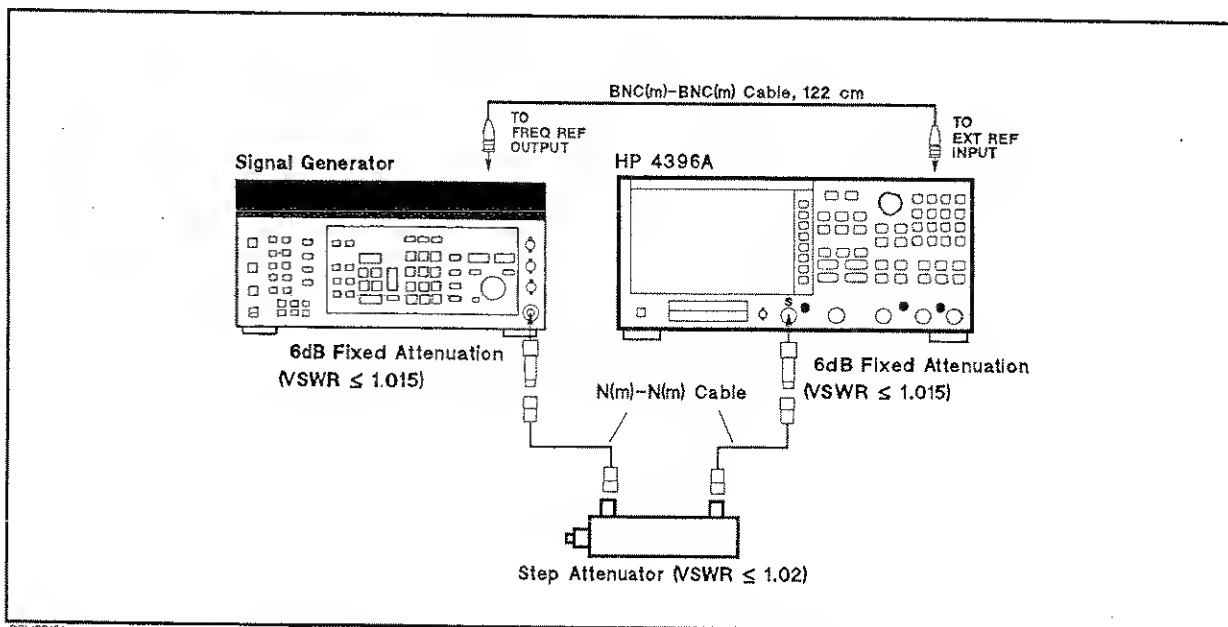

Figure 2-20. Amplitude Fidelity Test Setup
3. Connect the test equipment as shown in Figure 2-20.
Connect the signal generator's 10 MHz frequency reference output to the HP 4396A EXT REF Input on the rear panel as shown in Figure 2-20. With this configuration, both the signal generator and the HP 4396A are phase locked to the same reference frequency to obtain a stable measurement.